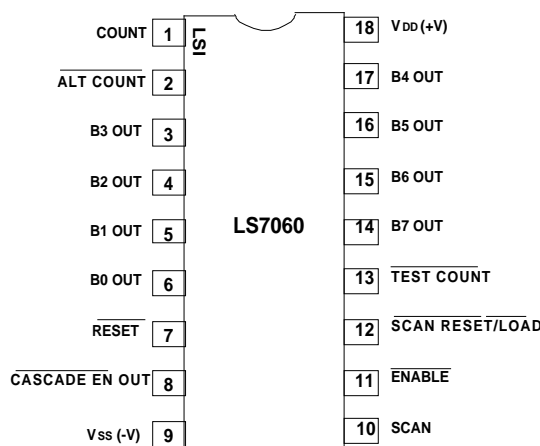

FIGURE 1
- LS7060, LS7062 (DIP); LS7060-S, LS7062-S (SOIC) - See Figures 1 & 2